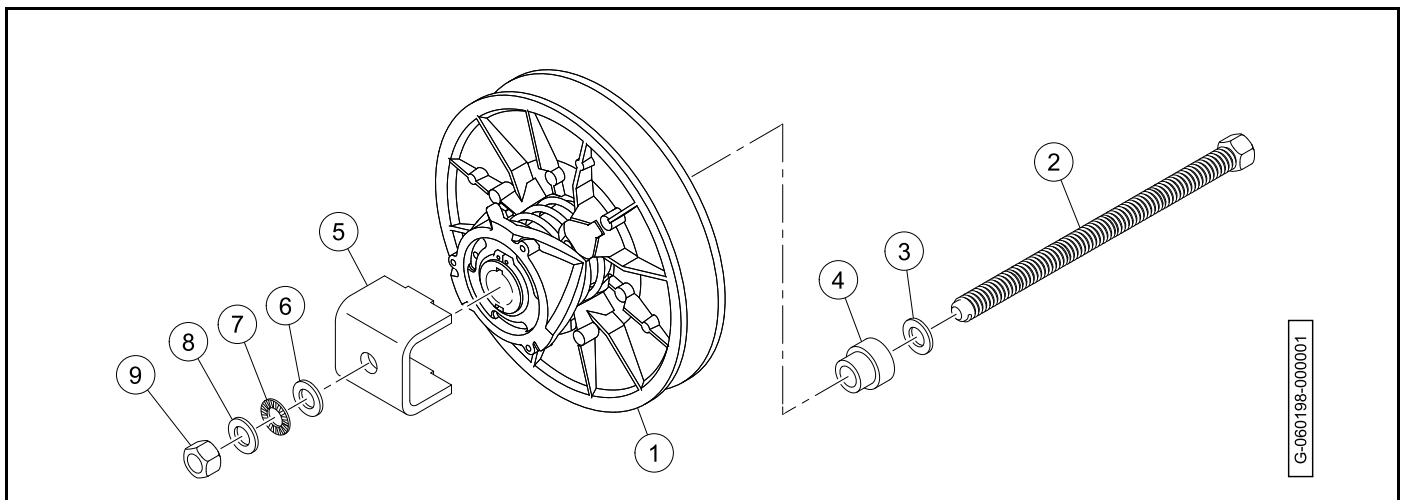

Figure 24-14 Driven Clutch Tool - Disassembly
2. Set the edge of the clutch body (1) on a clean, flat surface (**Figure 24-14, Page 24-13**).